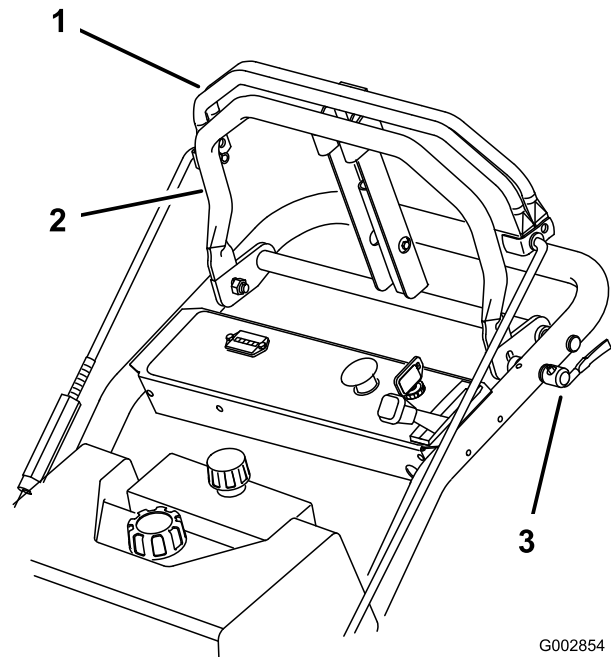

Figure 15
1. Place the quick release levers in the unlock position (Figure 15).
2. Move the reference bar forward or backward to set the desired forward speed. The pointer indicates approximate ground speed (Figure 15). When the bar is in the full forward position the ground speed is approximately 6 mph. When the reference bar is in the middle position the ground speed is approximately 3 mph.
3. Place the quick release levers in the lock position (Figure 15).
1. To go forward, slowly press on the upper control bar against the reference bar (Figure 15).
2. To go straight, apply equal pressure to both ends of the upper control bar (Figure 15).
3. To turn, release pressure on the upper control bar side toward the direction you want to turn (Figure 15).
4. Adjust reference bar to maintain a comfortable pre-set ground speed (Figure 15).
5. To stop, release the upper control bar to stop both wheels (Figure 15).
1. To go backward, slowly pull the control bar rearward (Figure 15).
- To stop, release the upper control bar to stop both wheels (Figure 15).